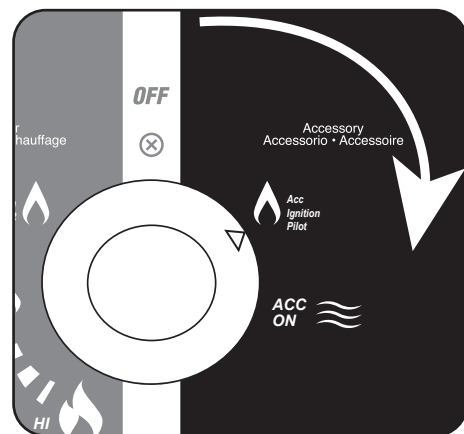

Figure 6
4. Push control knob down slightly and rotate **clockwise** to Accessory "Ignition/PILOT" position. See Figure 6.